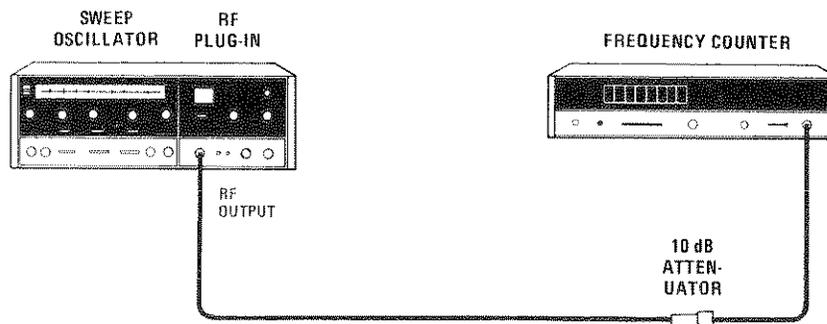

Figure 4-17. Digital-to-Analog Converter Test Setup
- b. Connect equipment as shown in Figure 4-17.